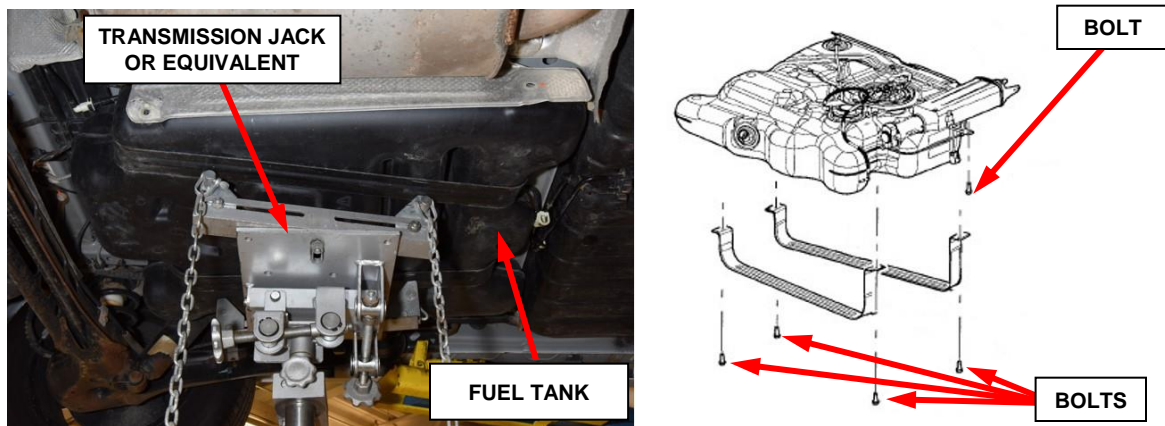

Figure 9 – Fuel Tank and Vapor Canister
42. Remove fuel tank strap bolts and vapor canister bracket bolt (Figure 9).